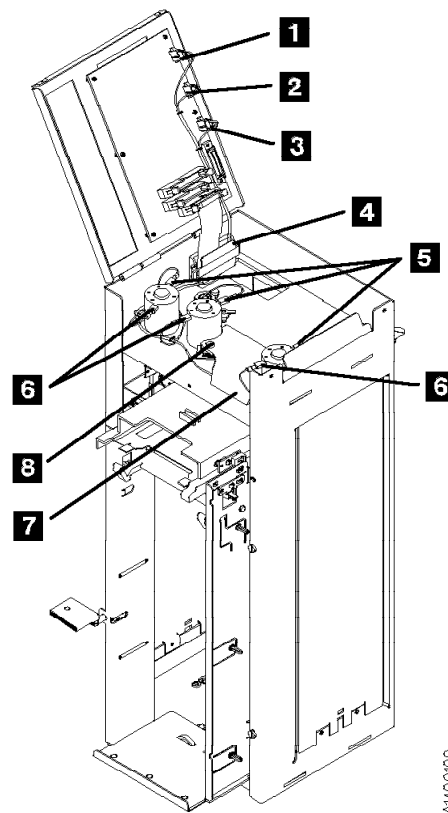

Figure 307. Motor Cable
3. See Figure 307. Remove the pinch motor connector from CD6 **1**, the feed motor connector from CD5; **2**, and the elevator motor connector from CD7 **3**.